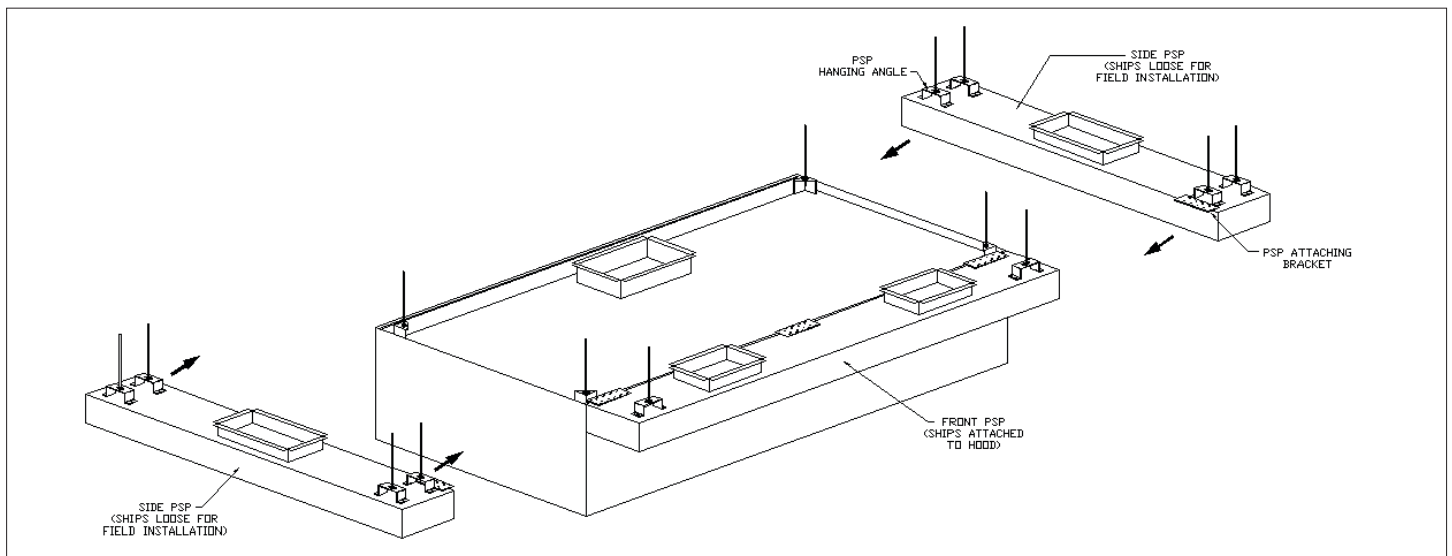

FIGURE 10
7. Move the PSP into position as indicated by the project submittal drawings; lining up the top edge of the PSP with the top edge of the hood. Remove the protective coating from the back of the PSP. **See Figure 10.**